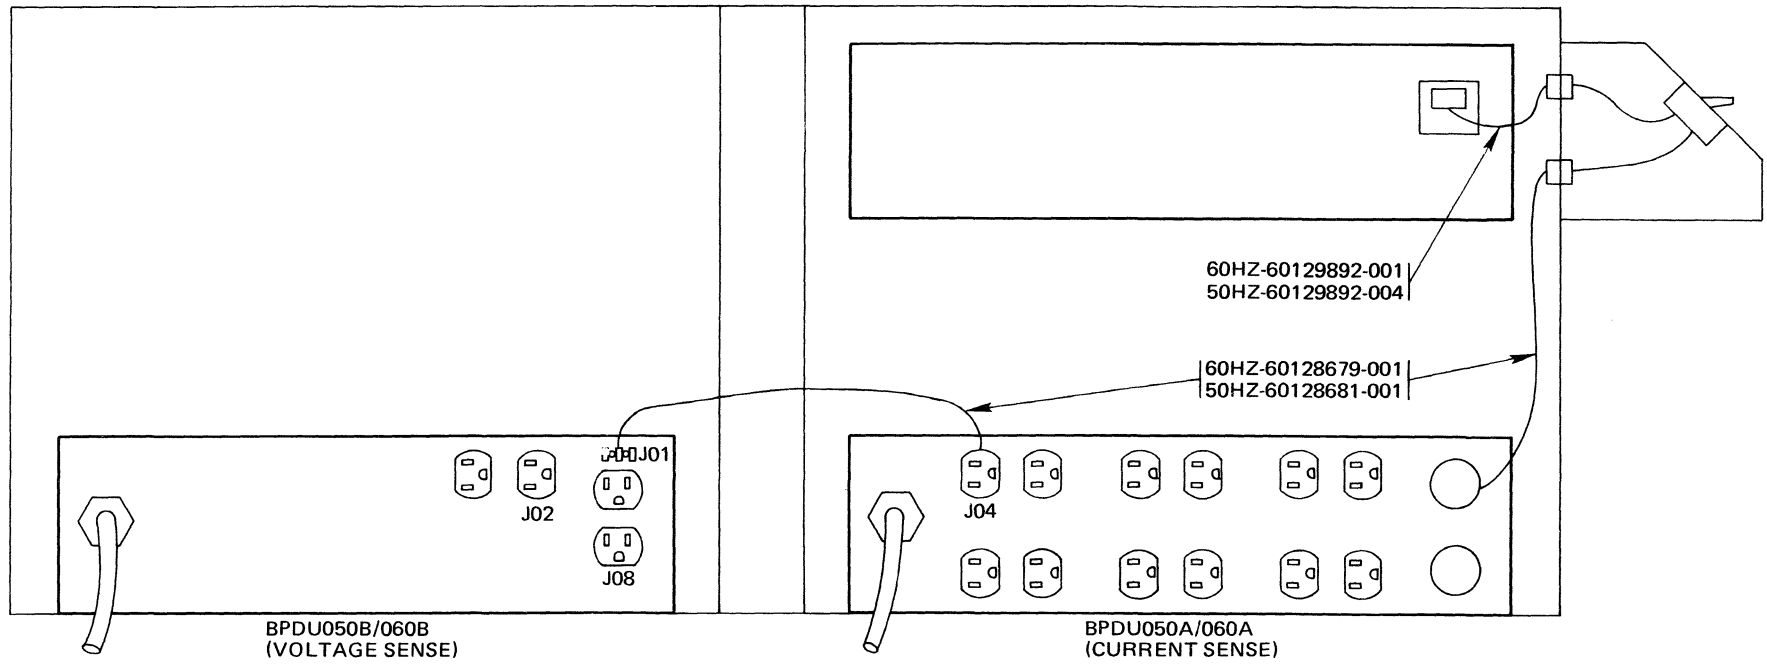
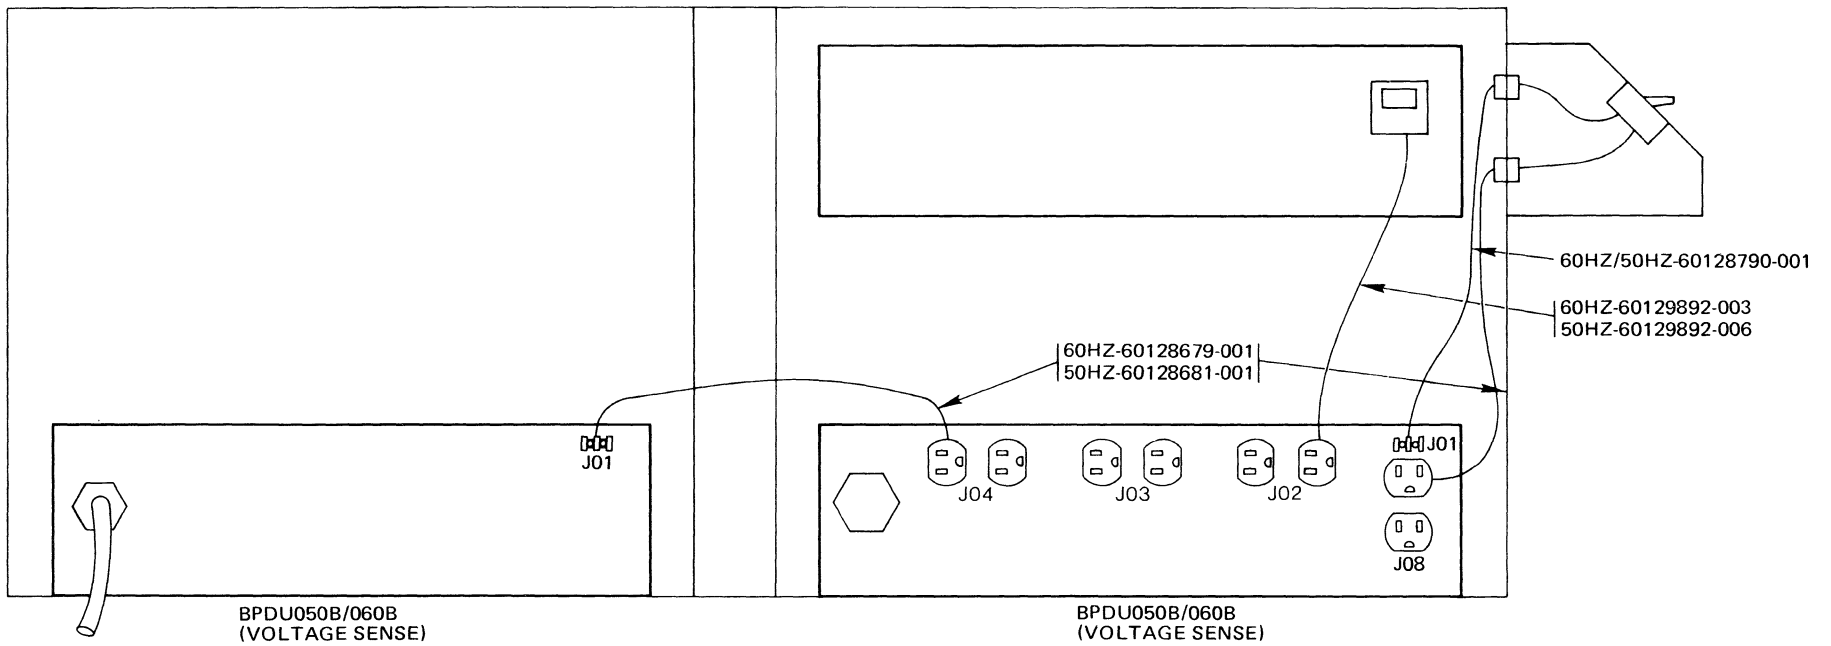

Figure 5-11 Typical Expansion of BPDU050A/BPDU060A (Rear View)
Figure 5-12 Typical Expansion of BPDU050B/BPDU060B (Rear View)
Figures 5-11 through 5-18 show some of the possible PDU expansions for Level 6 rack-mounted configurations. Figure 5-19 shows the PDU assignments for six representative office furniture packages with the load currents for the devices used and the amount of available (margin) load current for expansion.
3. For Type BPDU050ABPDU060A PDUs, insert the control panel power plug into receptacle J01 located at the rear of the unit (see Figure 5-11). For Type BPDU050B/BPDU060B PDUs, insert the two control panel power plugs into receptacles J01 and J08 located at the rear of the unit as shown in Figure 5-12.